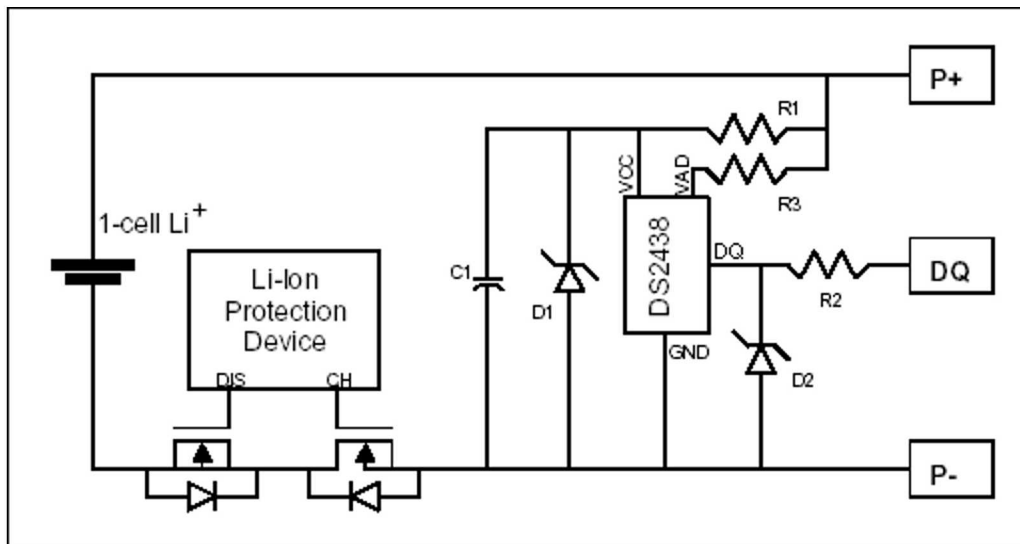

Figure 2. Recommended schematic for single-cell Li+ pack with low-side n-channel protection FETs.
Figure 2 below illustrates the recommended implementation of the DS2438 with respect to the low-side n-channel safety FETs. Additionally, Dallas recommends passive devices that primarily serve to protect the DS2438 from ESD damage. The protection offered by each device is described below:
2. The Zener diode D1 on V_{CC} serves two purposes. It clamps at the Zener voltage so that ESD and switching transients cannot damage the Dallas chip through V_{CC} . In the forward bias region, it clamps around 0.7 volts, thereby disallowing V_{CC} from falling more than 0.7 volts below GND, which is possible when both the CHarge and DIScharge FETs are high impedance. Choose a Zener voltage that is larger than the maximum cell(s) voltage for the application, but lower than the 10.0 volts rating of the DS2438. A Zener value between 5.1 volts and 10.0 volts would be ideal for the circuit in Figure 2.